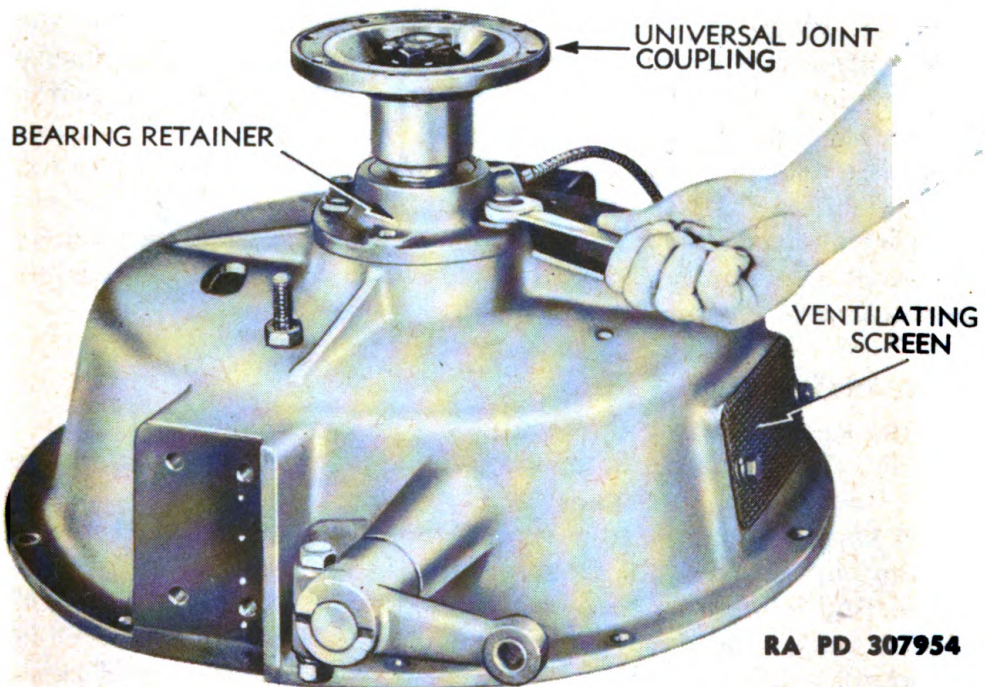
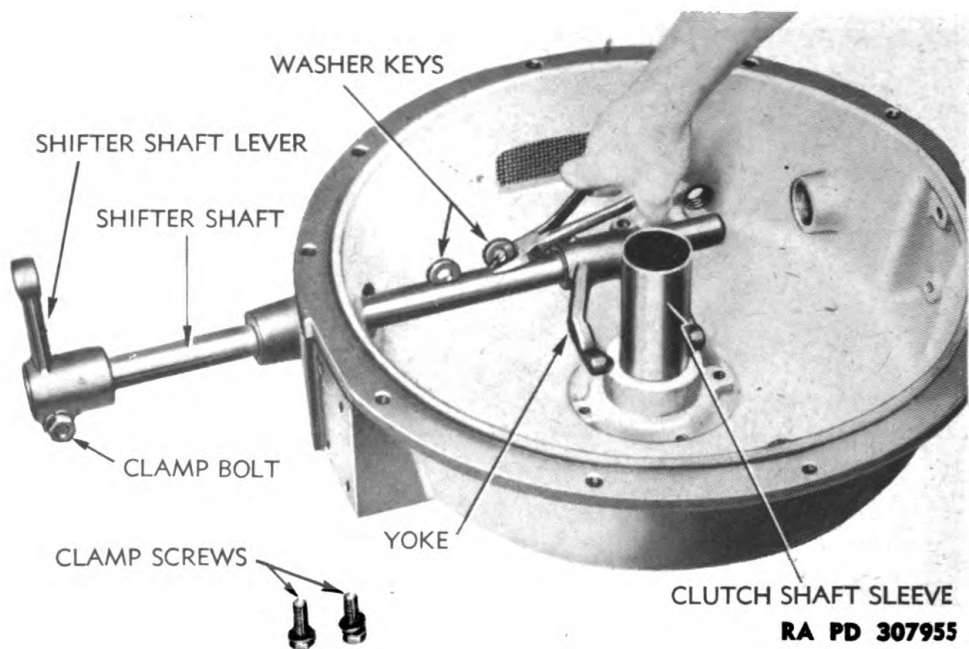
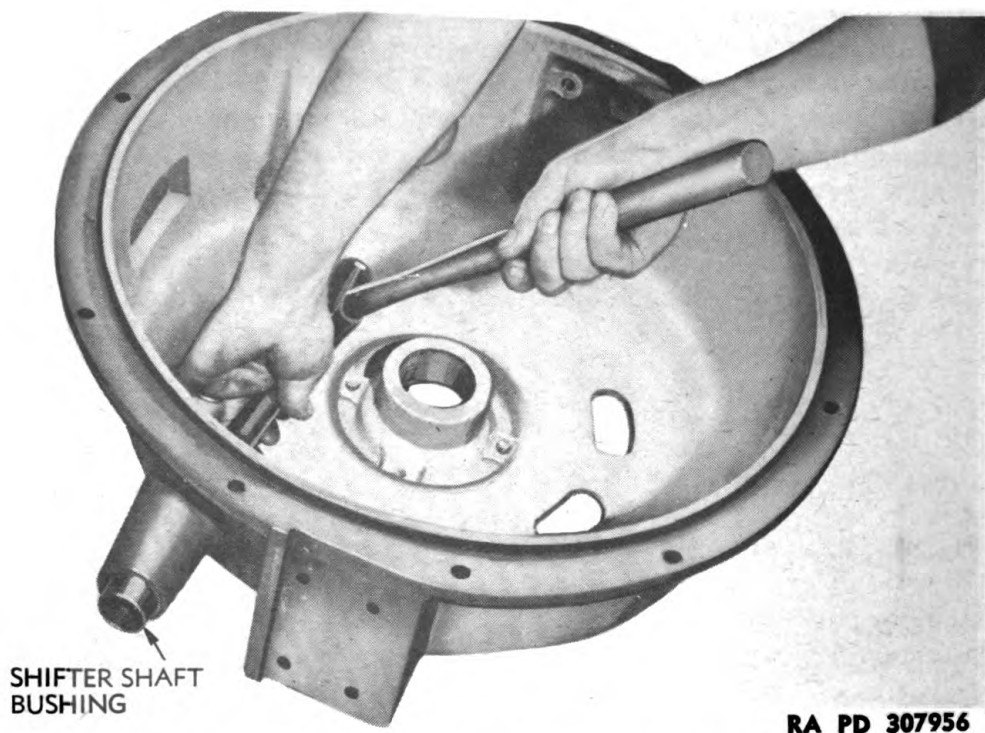

Figure 147 — Removing Bearing Retainer Cap Screws
Figure 148 — Removing Keys From Clutch Shifter Shaft
Figure 149 — Removing Clutch Shifter Shaft Bushings
(2) **REMOVE CLUTCH SHAFT ASSEMBLY (fig. 147).** Remove four cap screws from clutch shaft bearing retainer. Pull or tap clutch shaft
(3) **REMOVE CLUTCH SHIFTER SHAFT ASSEMBLY** (fig. 148). Remove the two clamp screws from clutch shifter yoke and drive shaft and shifter yoke sideways until the two washer keys can be removed from shaft. Then pull shaft on out of housing and shifter yoke. Drive or press shaft bushings from bosses in sides of housing if worn
(fig. 149). Expansion plug in one boss will be driven out at same time.
(4) **REMOVE SLEEVE FROM CLUTCH HOUSING.** Use arbor of proper diameter and drive or press clutch shaft sleeve (fig. 148) out of housing. Remove two cap screws and washers and lift ventilating screen (fig. 147) from top of housing.
(3) **REMOVE LEVER FROM CLUTCH SHIFTER SHAFT.** Loosen clamp bolt in lever (fig. 148) and tap lever off shaft. Remove key from slot in shaft.
(1) **INSTALL CLUTCH SHAFT SLEEVE AND VENTILATING SCREEN.** Install ventilating screen on top of clutch housing (fig. 147) with two cap screws with lock washers. Drive or press clutch shaft sleeve (fig. 148) into housing.
(2) **INSTALL SHIFTER SHAFT AND YOKE.** Drive or press shifter shaft bushings (fig. 149) into bosses in housing. Ream, if necessary, for slip fit of shifter shaft in bushings. Insert end of shifter shaft through side of housing from which boss extends out (fig. 148). Start shifter yoke onto shaft with slot in top of yoke in line with key slots in shaft. Tap washer keys into the two slots in shaft, then tap shaft through yoke and through bushing in other side of housing. Install and tighten clamp screws in shifter yoke. Test to make sure shaft turns easily.
(3) **INSTALL CLUTCH SHAFT ASSEMBLY.** Cement gasket to clutch shaft bearing retainer. Slide shaft through housing and clutch shaft sleeve from rear of housing. Turn retainer so lubricating tube will point towards top of housing, then attach retainer to housing with four cap screws with lock washers (fig. 147).